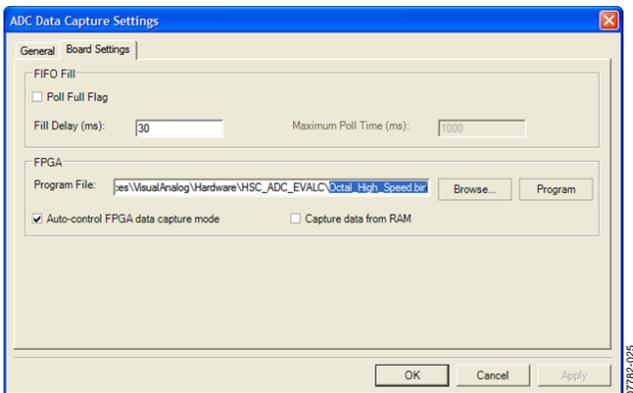

Figure 7. ADC Data Capture Settings Window, Board Settings Tab
4. Program the HSC-ADC-EVALCZ board's FPGA to a setting other than the default setting as described in Step 3. Then expand the VisualAnalog display and click the **Settings** button in the **ADC Data Capture** block (see Figure 6). The **ADC Data Capture Settings** box opens (see Figure 7).